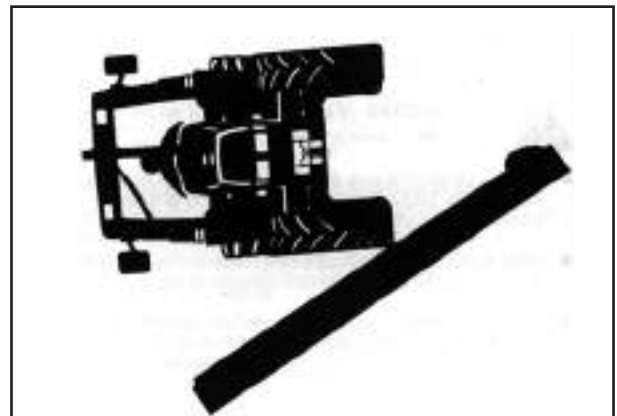

Fig. 12
- Whenever possible, avoid crossing hilly land. If necessary, avoid pot holes, tree trunks or hillocks (Fig. 12).